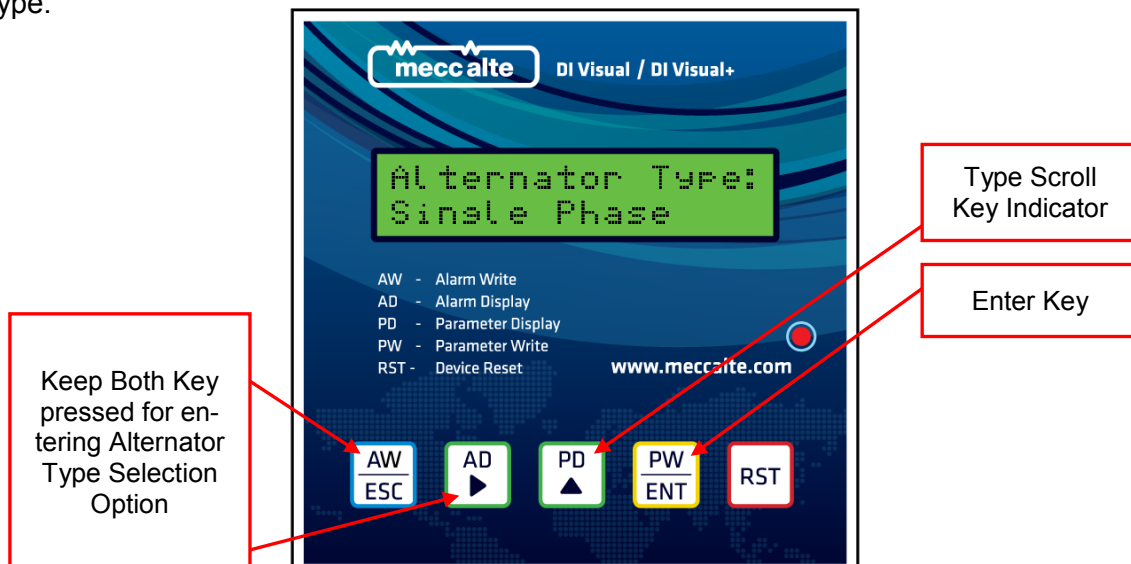

fig. 5
- 2) Use key  or  key to change scroll between Single Phase and Three Phase Alternator type. Once you have entered desired type press  key as shown in Fig. 5 below to update the Alternator Type.